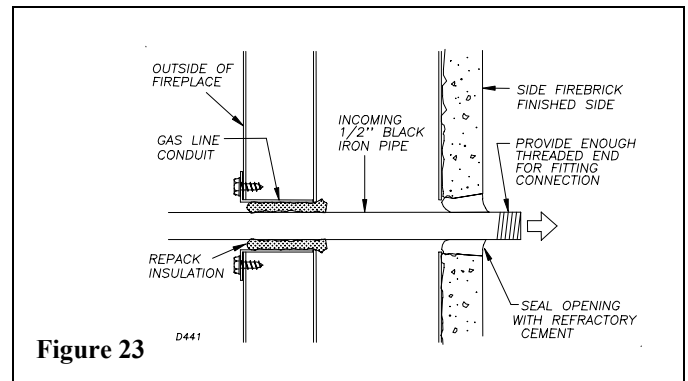

Figure 23 D441
STEP 3: Run a 1/2 inch black iron gas line into the fireplace through the gas line conduit sleeve. Provide sufficient gas line into fireplace chamber for fitting connection (see figure 23).